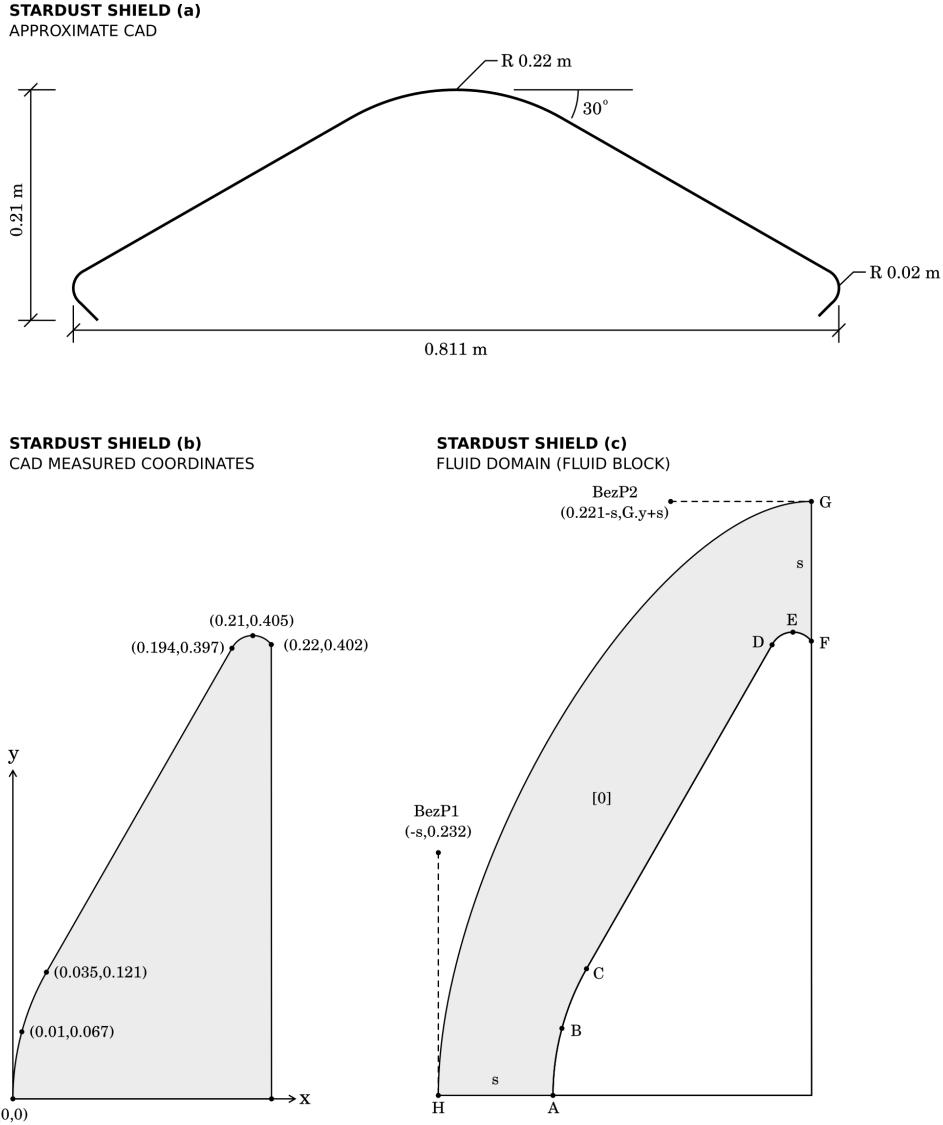

Figure 4.11: a) The approximate geometry of the stardust return capsule. b) The half-geometry for simulation and shape coordinates. c) The fluid domain.
2. The west (bezier) edge will adjust to fit the shock - this is a four-point bezier and requires 'handle' points as shown in figure 4.11.